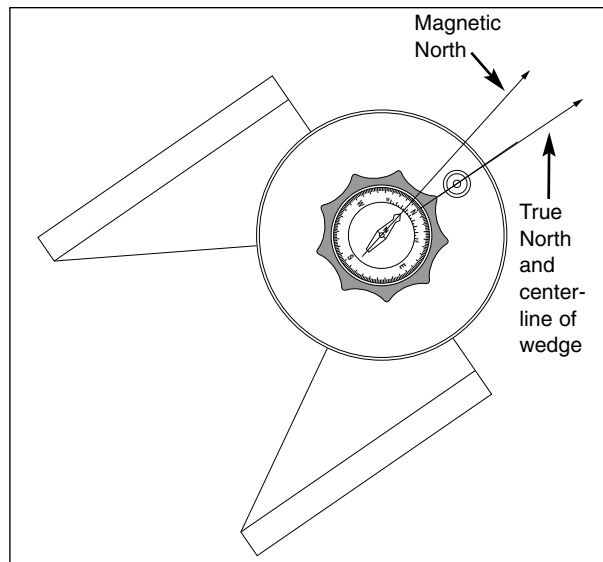

Fig. 19: Equatorial Wedge.
3. Rotate the equatorial wedge in azimuth (without moving the knob/compass) until the centerline of the wedge lines up with the point of the knob/compass (Fig. 19). The centerline of the equatorial wedge now falls directly on the true north line.